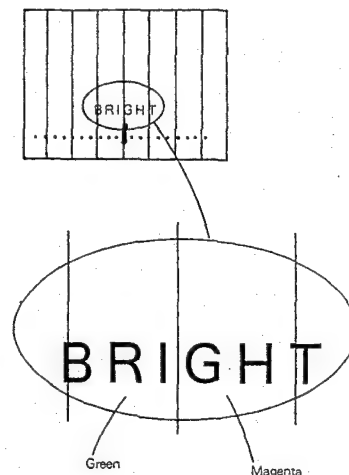

Fig. 2-6
- (1) Receive a color bar signal.
- (2) Press the select switch once.
- (3) Adjust L1 so the OSD characters are displayed as shown in Figure 2-6.